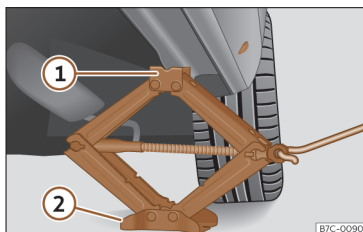

Fig. 246 Crossbar: mounting the jack on the vehicle.
- Turn the jack crank handle, located below the strut support point, to raise it until the tab ① >>> **Fig. 246** is below the housing that is provided.
- Align the jack so that the tab ① “grips” onto the housing provided on the cross member and the mobile base ② is resting on the ground. The base plate ② should fall vertically with respect to the support point ①.